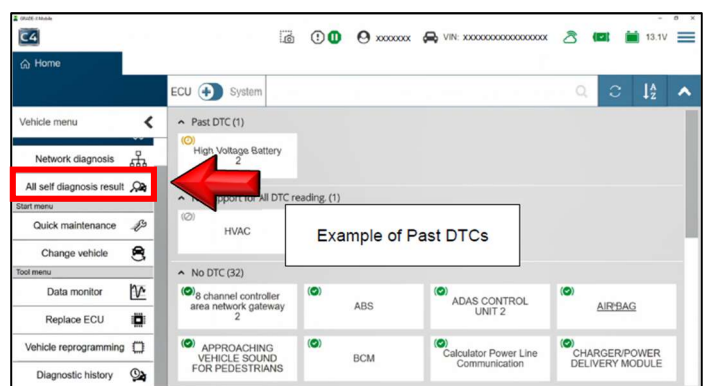

Figure 20
20. Press the ignition button one (1) time to turn the Vehicle OFF.
21. Select **All self-diagnosis result**. (Figure 20)